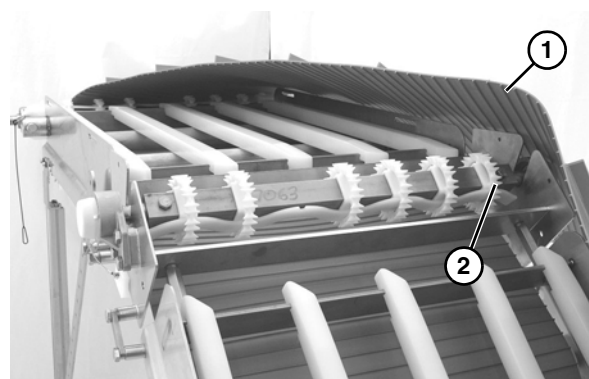

Figure 16
1. Slide belt (Figure 16, item 1) over knuckles and onto top and bottom of wear strips, while aligning the sprockets (Figure 16, item 2) with the cogged drive teeth on the inside of the belt.